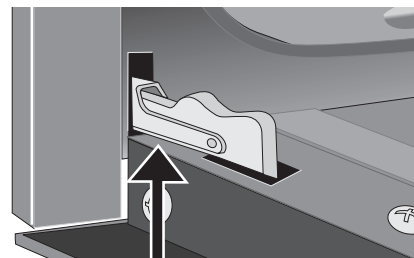
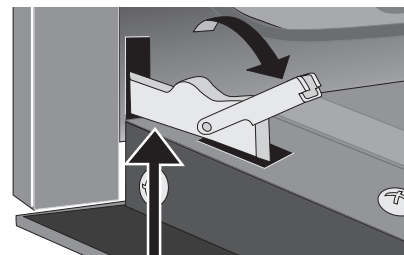

Figure 35: Door hinge locked
Figure 36: Unlocking door hinge
2. Pull up the lock located on each hinge support toward front of the oven until the lock stops. You may have to apply a little upward pressure on the lock to pull it up (Figure 35 and Figure 36).
4. Push the door hinge locks up toward and into the oven frame on both left and right oven door hinges to the locked position (Figure 35).